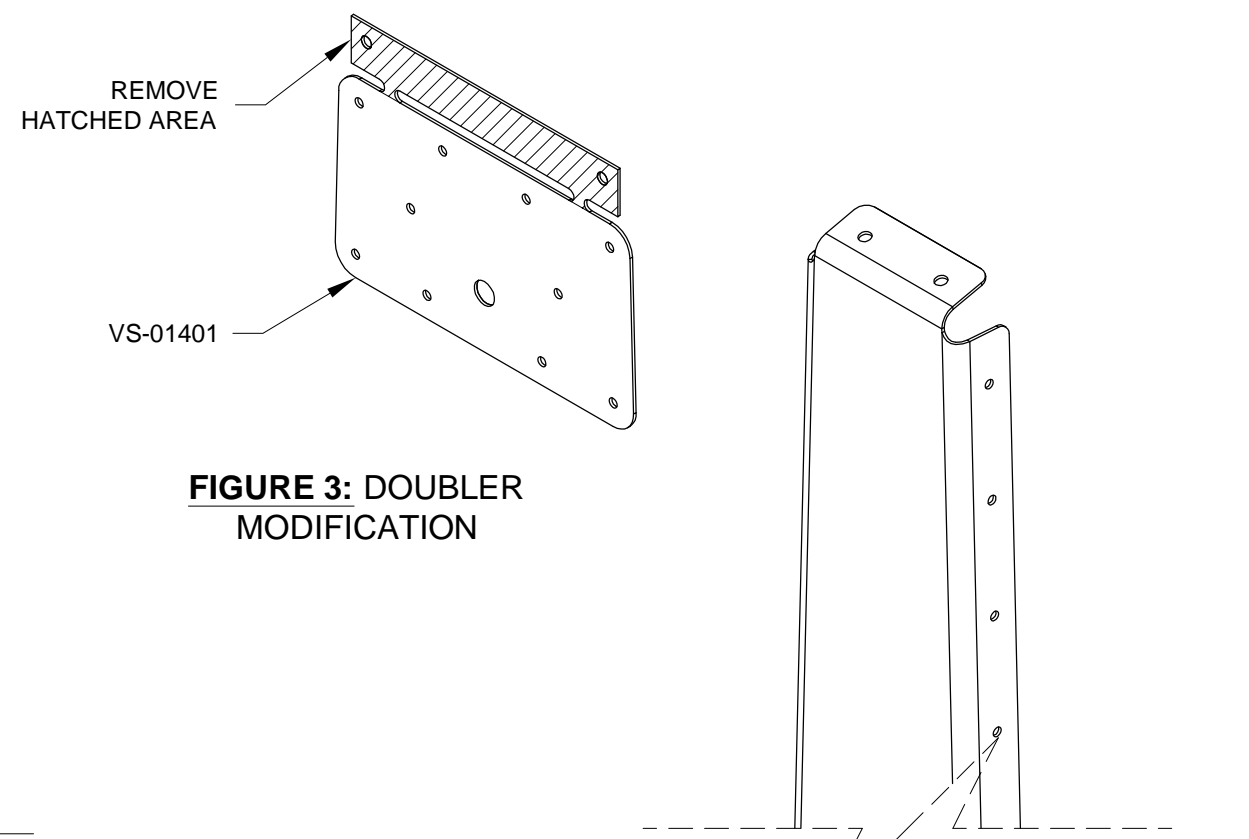

FIGURE 3: DOUBLER MODIFICATION
Step 5: Remove the hatched area from the VS-01401 Front Spar Doubler as shown in Figure 3.